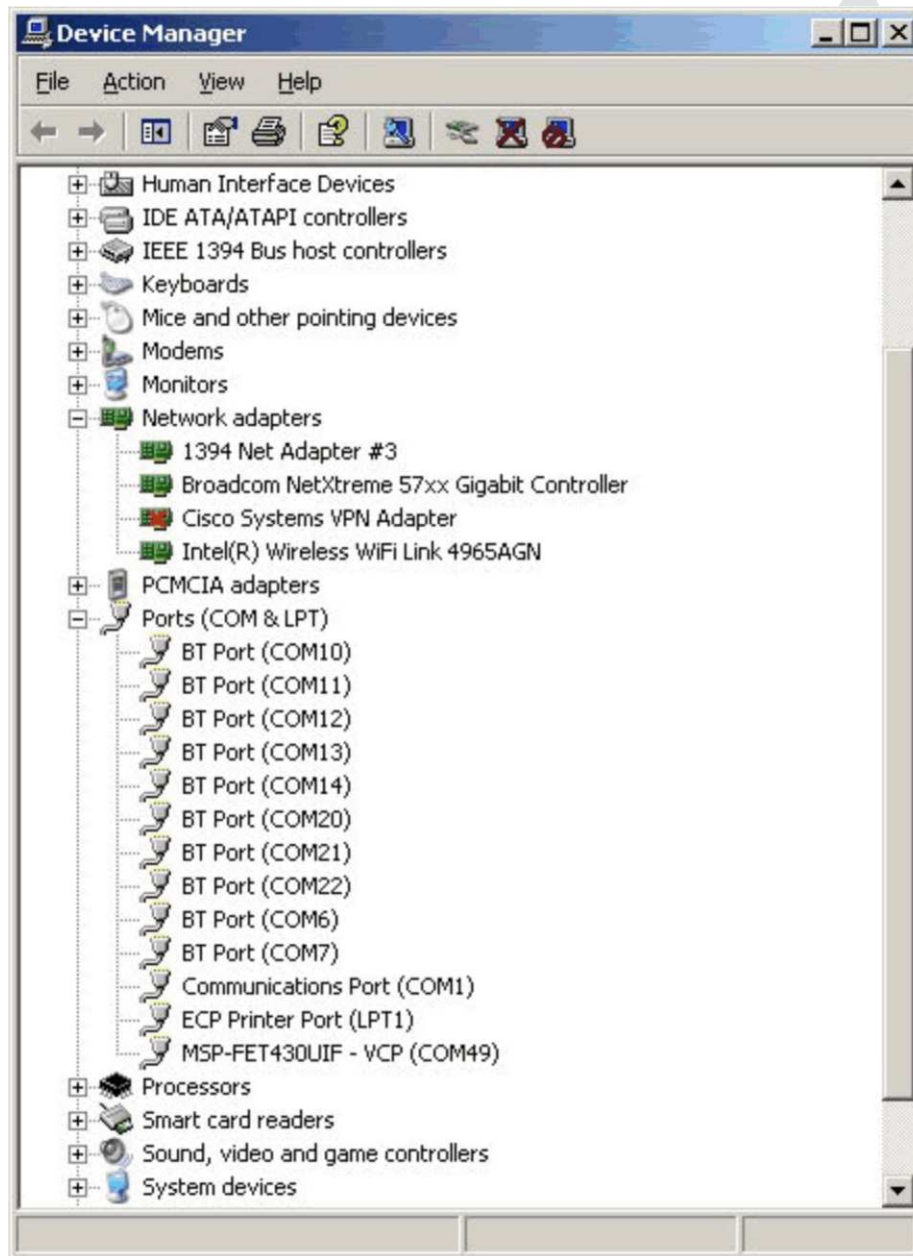

**Figure C-2. Windows XP Driver Location Selection Folder**
4. Browse to the folder where the driver information files are located (see Figure C-2).